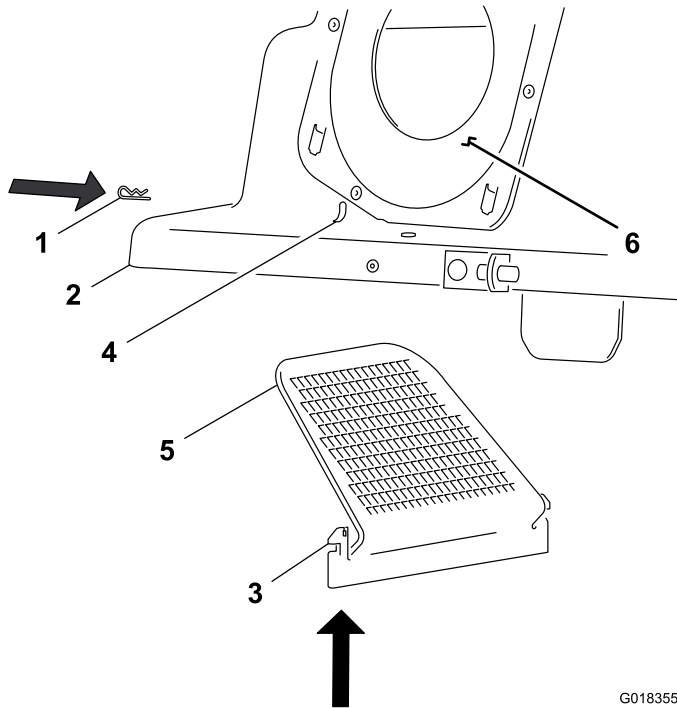

Figure 8
1. Locate the baffle slots in the front and back side walls of the bagger hood, and the mounting tabs on the hood baffle (Figure 8).
5. Align the baffle-mounting tabs with the baffle slots in the hood, and push the mounting tabs up and through the slots (Figure 8).
2. Position the hood so that the duct seal is on your left, as illustrated in Figure 8.
3. Align the baffle so that the screened area is up and angled left (Figure 8).
4. Insert the baffle up into the hood from the bottom (Figure 8).